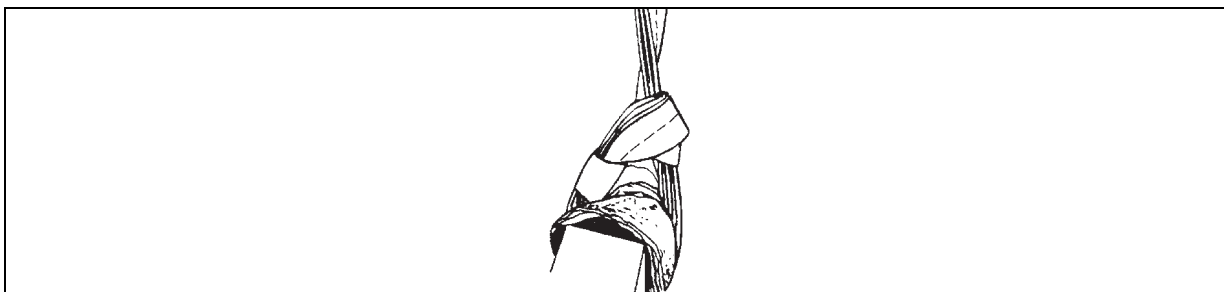

Figure 6-38. Choker Hitch
- A choker hitch (figure 6-38) connects one end of the sling to a frame member or similar structure on a load. Do not use a choker hitch around an item with a circumference of less than 8 inches or a diameter smaller than 2 1/2 inches. The uneven tension placed on the sling when a choker hitch is used around smaller diameter items, such as a lifting ring, may cause sling failure. The disadvantage of this hitch is that it draws up tightly and is difficult to remove.